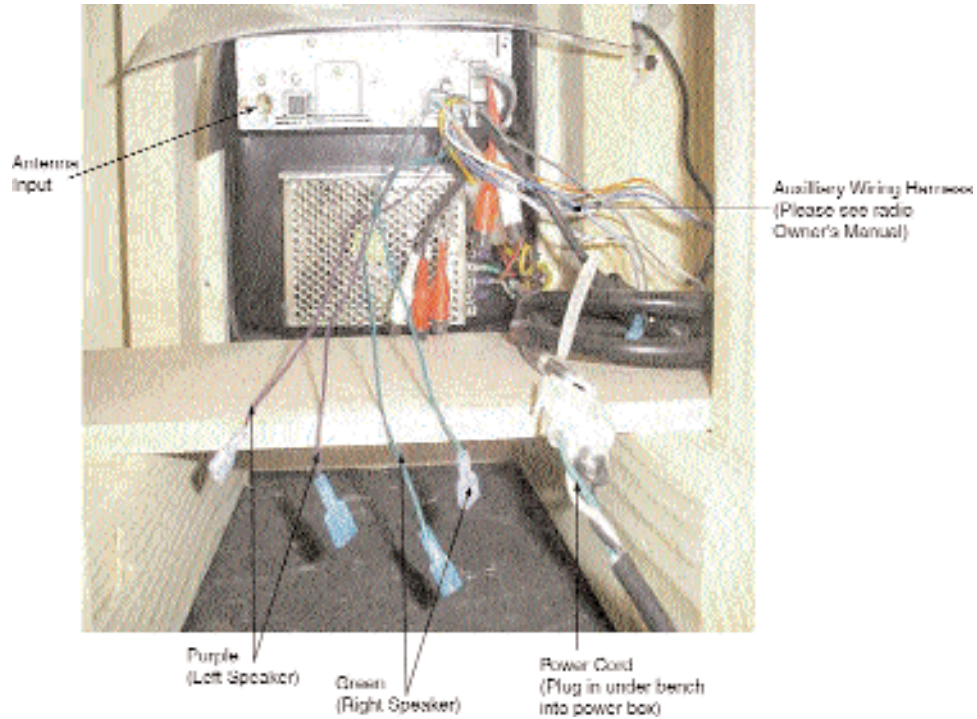

Figure 17. Stereo back plate
1. To mount the speaker box, place the L-bracket on the underside of the main bench and attach the L-bracket using the provided screws (Figure 17).
1. Run the provided speaker wire from the purple speaker plugs into the speaker located on the left side of the stereo. Run these wires between the bench, the sauna wall, and through the pre-drilled hole on the back of the speaker box (Figure 17).